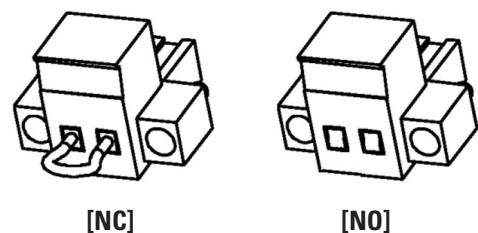

Fig. 6. EPO connector.
- By default, the equipment is shipped from the factory with the closed EPO circuit type **[NC]**. This means that the UPS will cut off the output power supply, emergency stop, by opening the **[NO]** circuit, see Fig. 6.